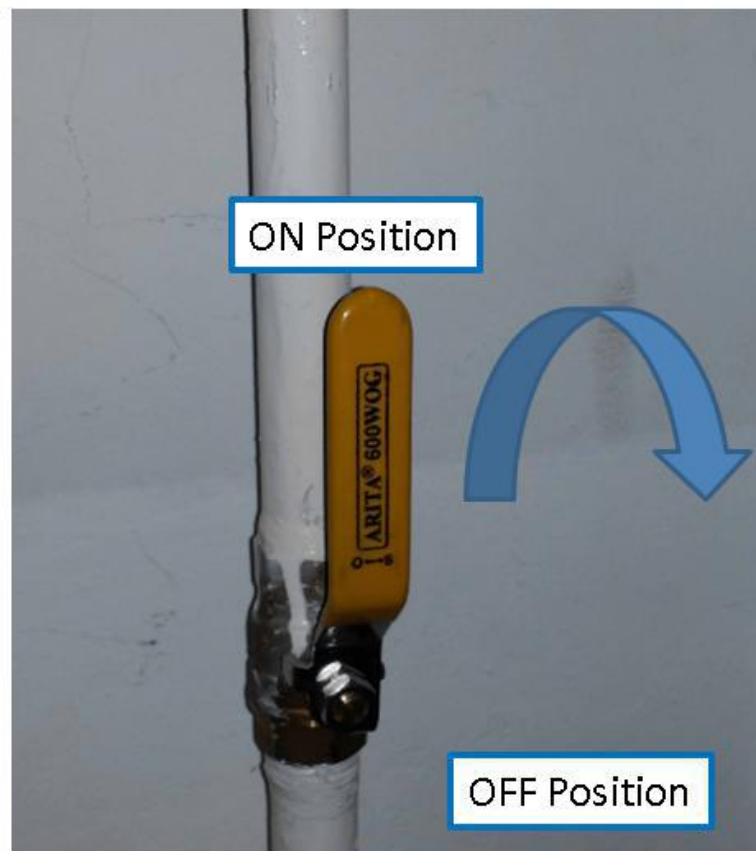

Figure 1 Incoming Air Pressure Input
1. Close Incoming Air Pressure Input as below Figure 1.